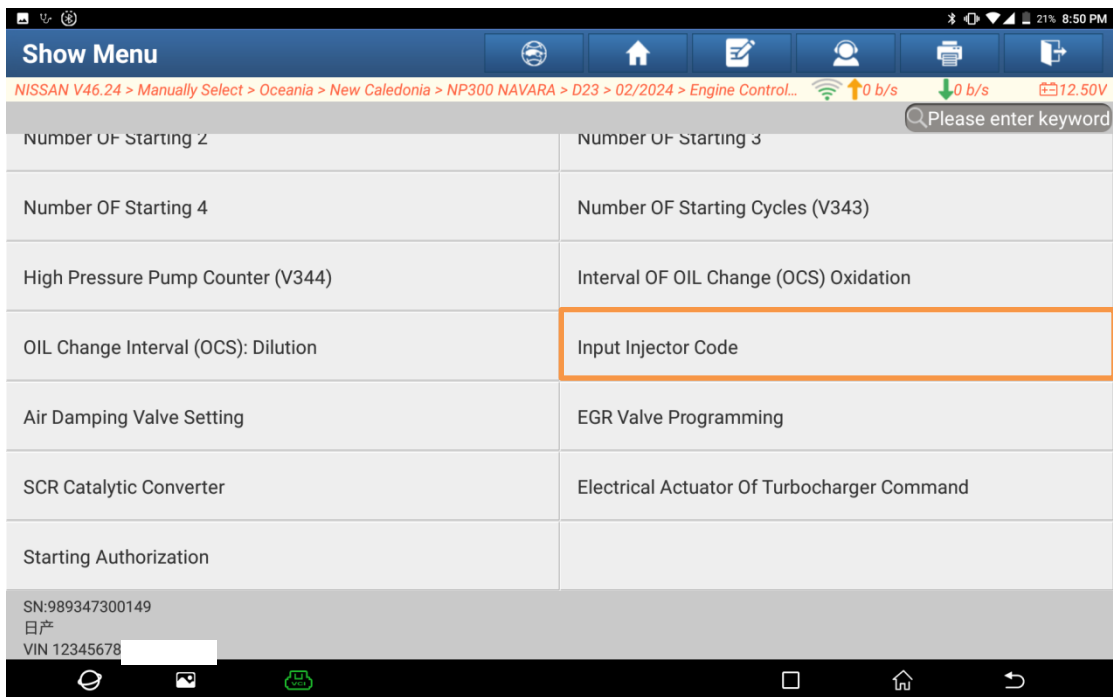

Figure 12
- On the [WORK SUPPORT] menu interface, click [Input Injector Code] (Figure 12).